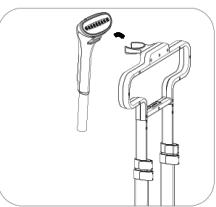

Fig. 7
- Put the steam brush on the brush fix base, Fig.7